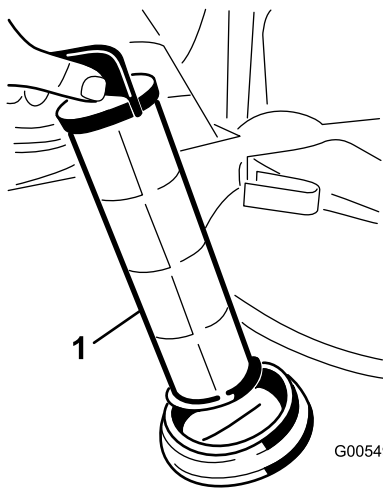

Figure 42
4. Pull the suction strainer out of the strainer housing in the tank (Figure 42).